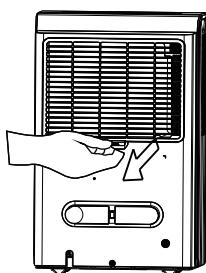

Fig. 5
- To remove the filter, pull filter outwards (see Fig. 5).